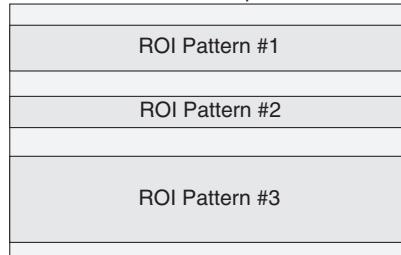

Figure 118. Multiple Full-width ROIs
1. ROIs cannot overlap. This places restrictions on the Slit (Y) values that can be specified. For example, if Pattern 1 has a Slit Start value of 1 and a Slit Height 100, the Start value for the next ROI must be greater than 100. *If a Full pattern is selected and stored, it overlaps all others, causing all data collections to be full-chip.* Figure 118 illustrates multiple full-width ROIs.
Note: In Spectroscopy mode, ROIs created via the mouse are limited to full chip width like the ones depicted in Figure 118. This is not the case in Imaging mode.